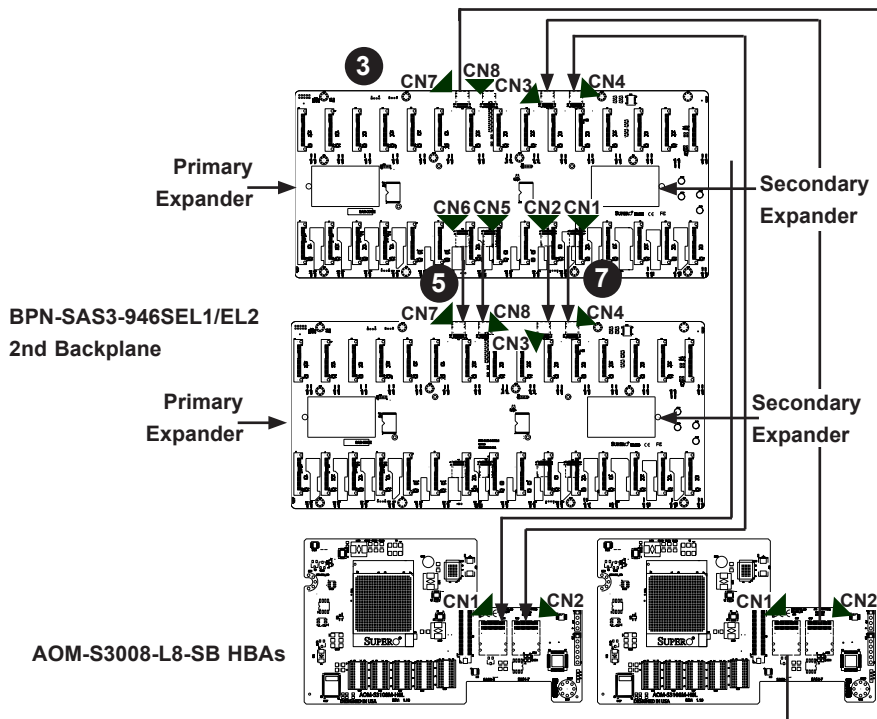

Figure C-6. Backplane Cascading Configuration (EL2 Version)
3. Plug the cables into connector CN7 and CN8 then CN3 and CN4, then route the cables to connectors CN1 and CN2 on the undersides of both AOM-S3008-L8-SB HBAs as illustrated in Figure C-6.
5. Connect the cables to CN5 and CN6, then route them to CN7 and CN8 on the underside of the 2nd backplane as illustrated in Figure C-6.
7. Connect the cables to CN1 and CN2, then route them to CN3 and CN4 on the underside of the 2nd backplane as illustrated in Figure C-6.